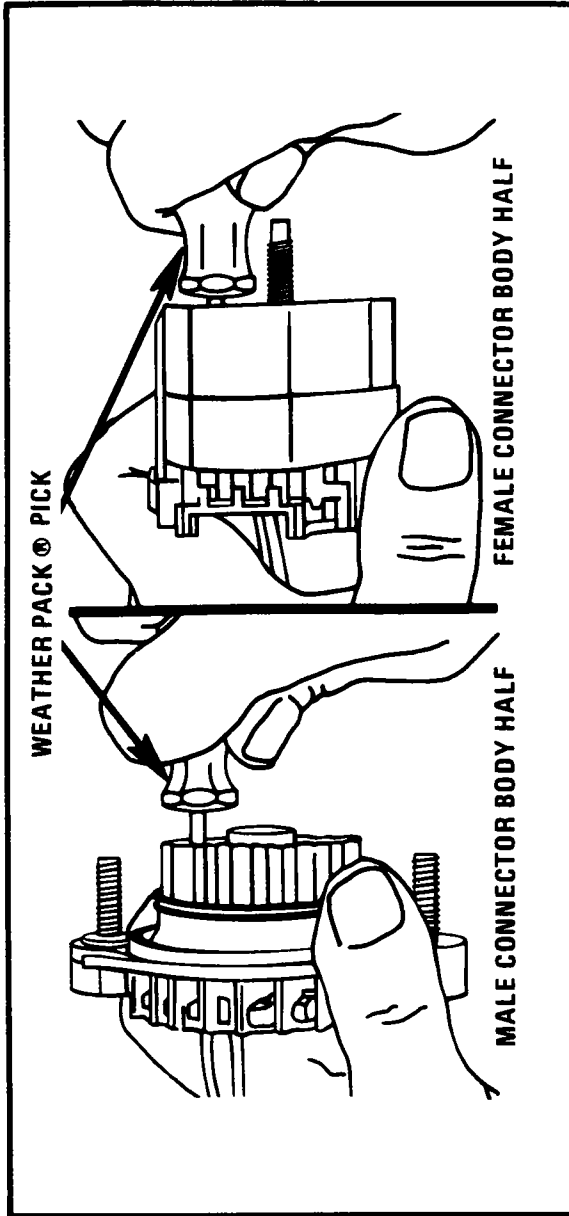
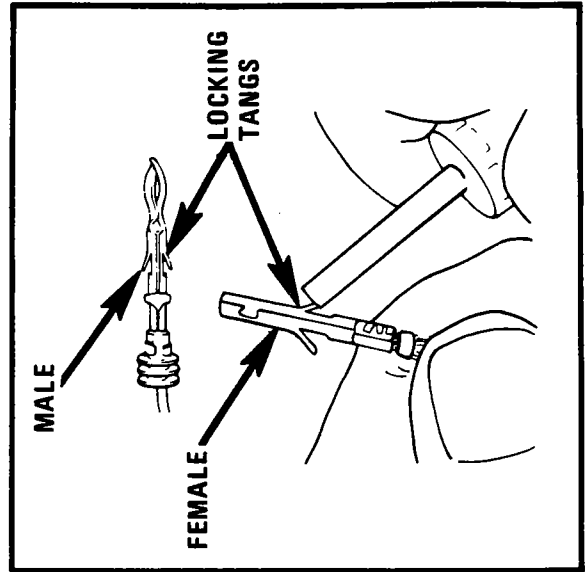

Figure 26 - Releasing The Terminal Locking Tangs (Large Connector)
Figure 28 - Re-Forming The Locking Tang
- Push the hollow cylinder of the pick into the terminal cavity from the front until it stops (see Figures 26 and 27). The pick should surround the terminal (see Figure 28 for drawings of locking tangs).
- Use the pick (J28742-A or the equivalent) to bend the locking tang back into its original shape (see Figure 28). Also, check to see that the remainder of the terminal is still in its original shape. (See Step Six for instruction in inserting the lead.)
Before inserting the lead, make certain that the terminal is correctly shaped (see Figure 28). Then, gently insert the lead from the back. The terminal should stop or "catch" about halfway through the connector body. Gently push back and forth on the lead to be sure the terminal is held in place in both directions. If the terminal easily pushes or pulls out, review Step Four; "Re-Form the Locking Tang."